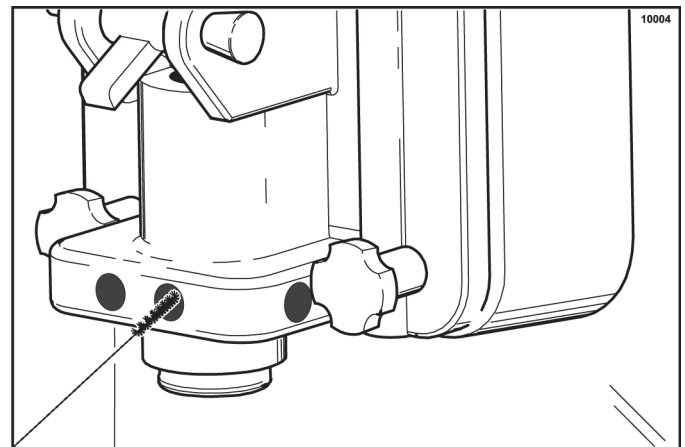

Figure 6-45
13. With the syrup port brush, brush each syrup-port hole 10 to 15 times. Dip the brush in the cleaning solution before brushing each port. (See Figure 6-45.)